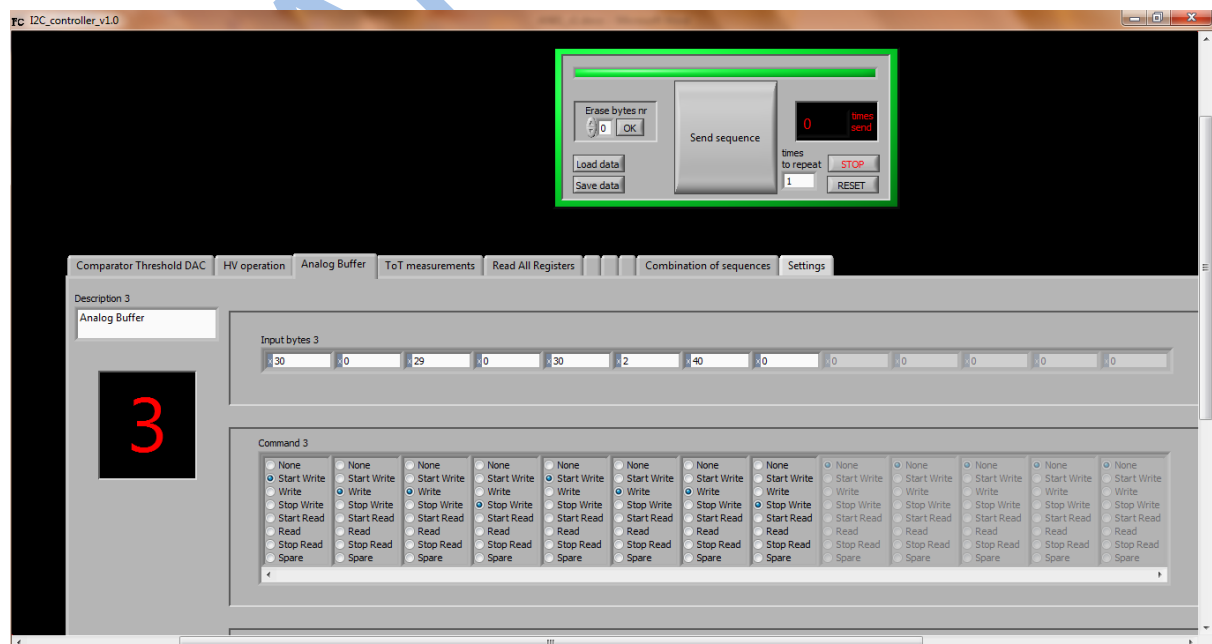

Figure 11 Labview program to set the analog buffer.
2. Set HVDAC register (Pointer1) to required value using I²C to set an appropriate gain on the PMT (Figure 11). ⚡
3. Set the HVonoff bit in the control register using I²C. This step should set the HV on all the dynodes of the PMT (Figure 11). ⚡